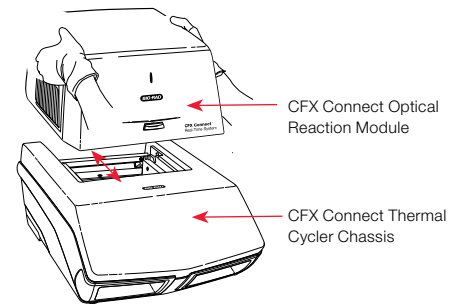

Fig. 1. Lifting the CFX Connect Optical Reaction Module onto the CFX Connect Thermal Cycler Chassis.
2. Remove the instructions overlay from the CFX Connect Chassis. Lift the CFX Connect Module using the handle indents above the side air vents (Figure 1).